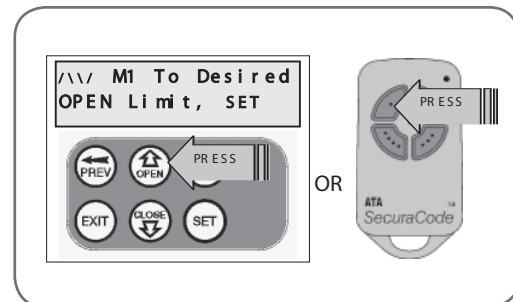

fig 15
1. Press and hold the OPEN button (or press button 1 on the transmitter) until the gate reaches its open position, i.e. when the rail-mounted actuator pushes the microswitch to its open position (**Fig. 15**).